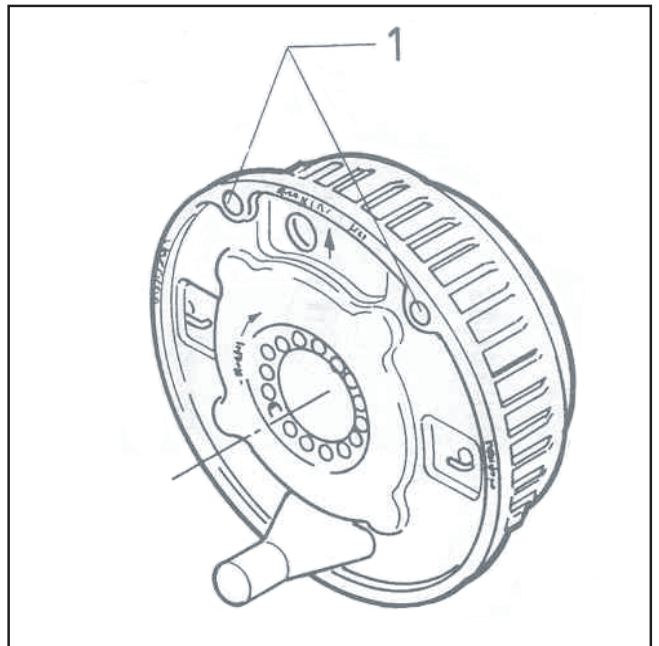

FIG.89
- Check the wear of the brake lining through the inspection hole (FIG. 89-REF. 1). Have the brakes adjusted if necessary.